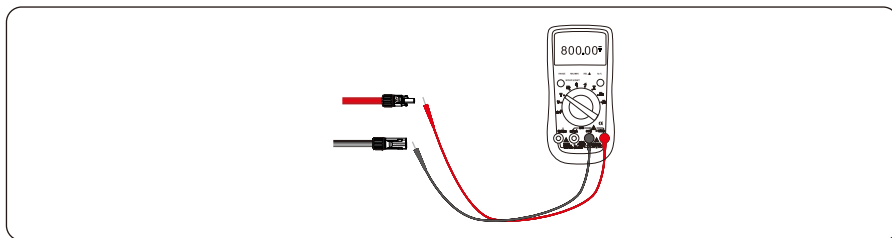

Figure 5.12 Checking the voltage of every route Strings
Step 5 Measure the voltage of every route Strings using a multimeter. Ensure that the polarities of the DC input power cables are correct, as shown in Figure 5.12.